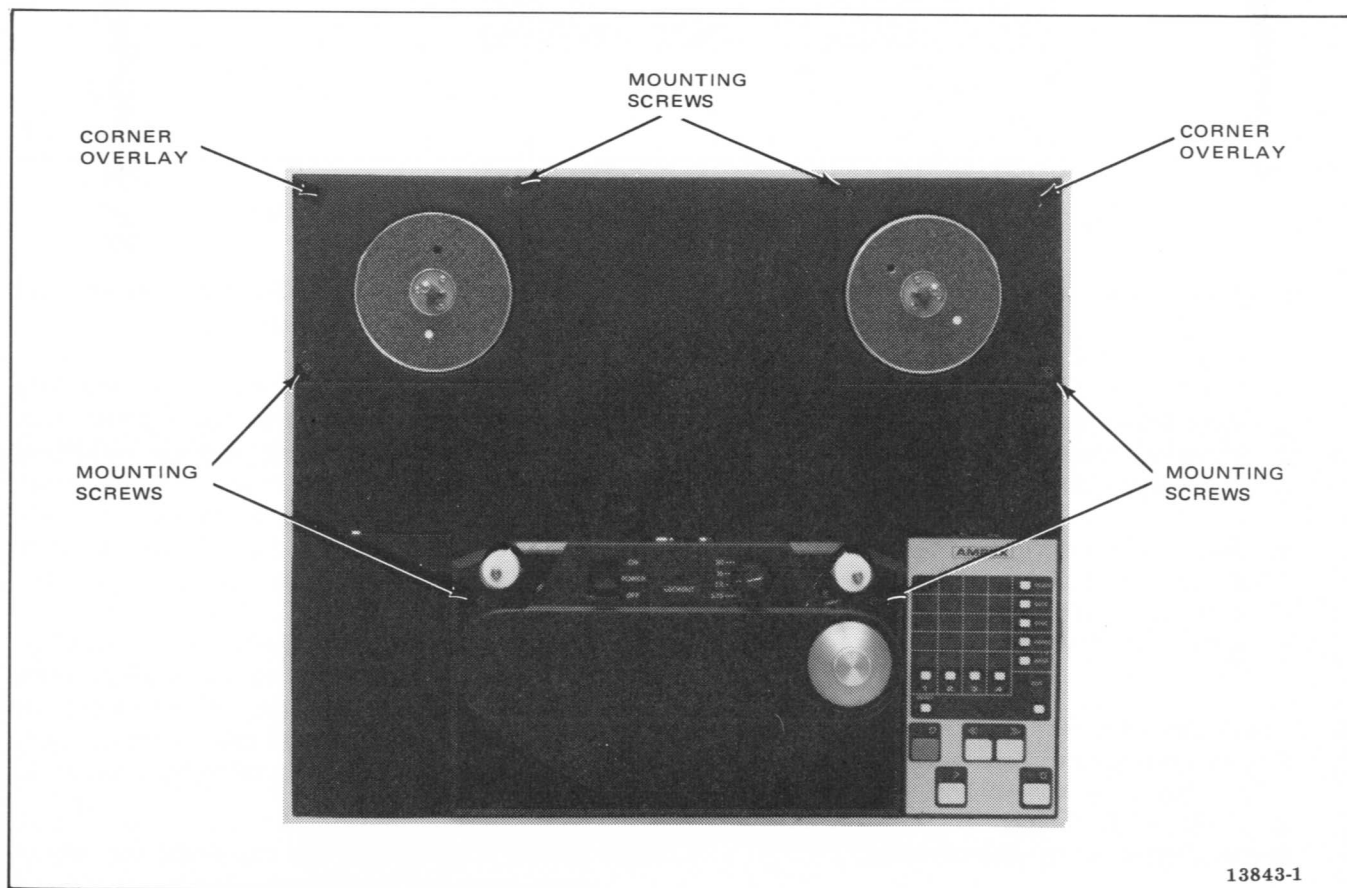

Figure 2-2. Rear Overlay Panel, Six Mounting Screws
1. At the top of the transport, remove the rear overlay panel (six screws) shown in Figure 2-2.
1. At the top of the transport, remove the rear overlay panel (six screws shown in Figure 2-2).